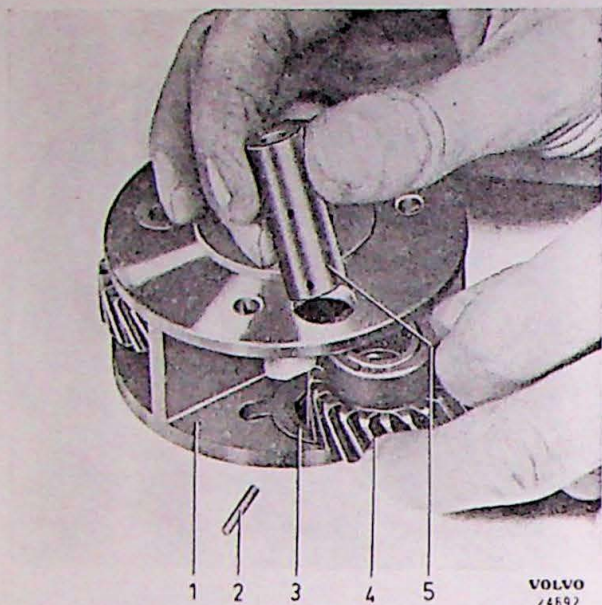
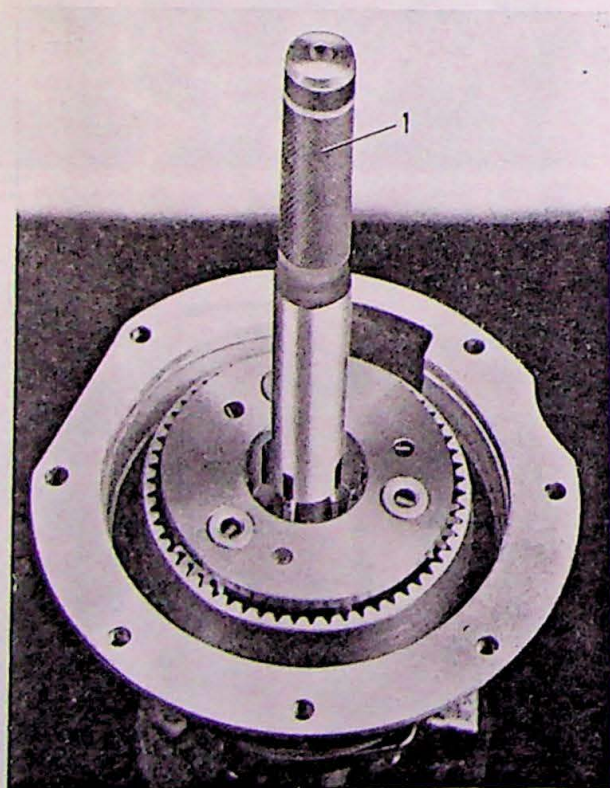

Fig. 3-53. Fitting a planet wheel, I
Fig. 3-54. Fitting a planet wheel, II
5. Press the needle bearings (37) in the planet wheel (36) with drift SVO 2417. The bearings should lie flush with or slightly below the side surfaces of the wheels. Assemble the planet wheel carrier, shaft, washers and planet wheels, see Fig. 3-53. Guide the splines into the planet wheel carrier and free wheel hub with drift SVO 2420, see Fig. 3-54.
6. Fit the sun wheel (44) into the clutch disk (41). Fit bolts, thrust bearing and thrust bearing retainer. Fit the thrust bearing on the clutch disk.
7. Fit the plungers (14) in the front housing half. Assemble the clutch disk, brake drum (39), pressure springs (52), front housing half and pressure plates